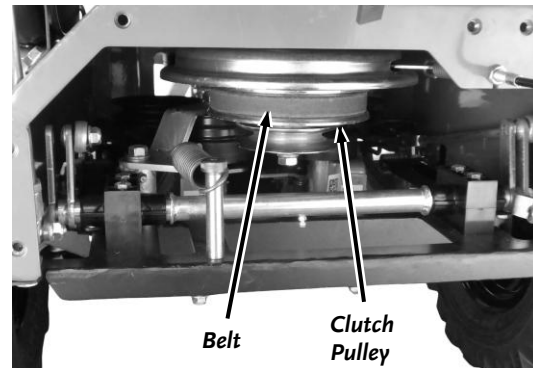

Figure 36
5. Push the belt in toward the Power Unit and the belt will fall off the Clutch Pulley (**Figure 36**).
8. Wrap the Belt around the Clutch Pulley under the Power Unit (**Figure 36**).